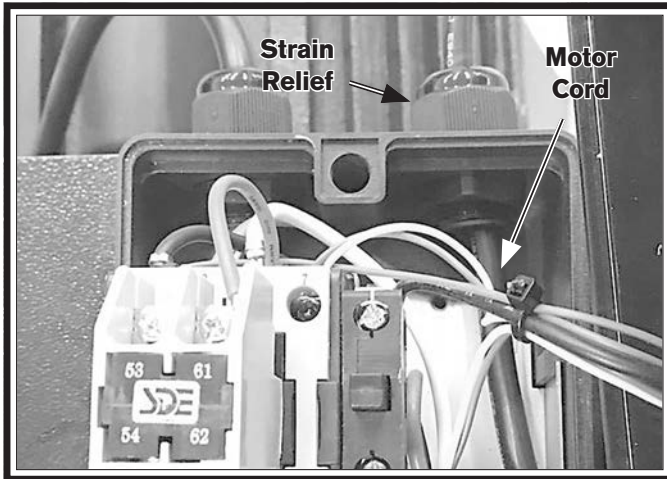

**Figure 26.** Collection bag installed to dust collector.
- 25.** Attach collection bag to hooks around bottom of collector, then position bag clamp around collector and tighten clamp around bag (see **Figure 26**).